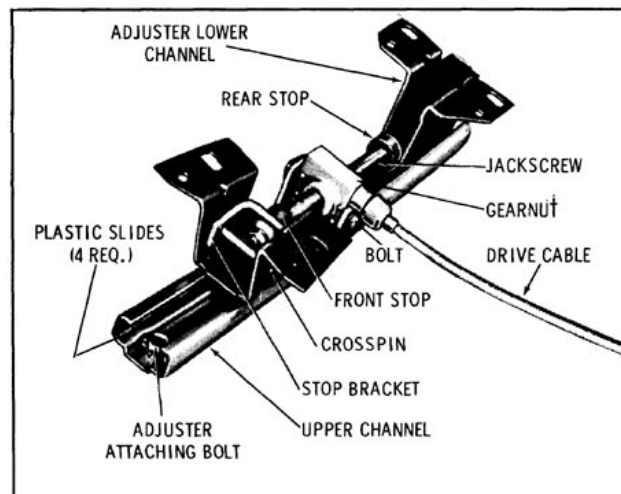

Fig. 16-91 Two Way Seat Adjuster
2. Detach power drive cable from gearnut of adjuster to be removed. (Fig. 16-91)
3. Using a clutch-type screwdriver, remove two shoulder bolts securing gearnut to upper slide portion of seat adjuster assembly. (Fig. 16-91)
4. Remove retainer that secures stop bracket crosspin to adjuster front pedestal and remove crosspin. (Fig. 16-91)
3. Using a clutch-type screwdriver or other suitable tool, remove two shoulder bolts securing gearnut to upper slide portion of seat adjuster. (Fig. 16-91)
2. Using a clutch-type screwdriver, remove two shoulder bolts securing gear nut to upper slide portion of seat adjuster assembly. (Fig. 16-91)